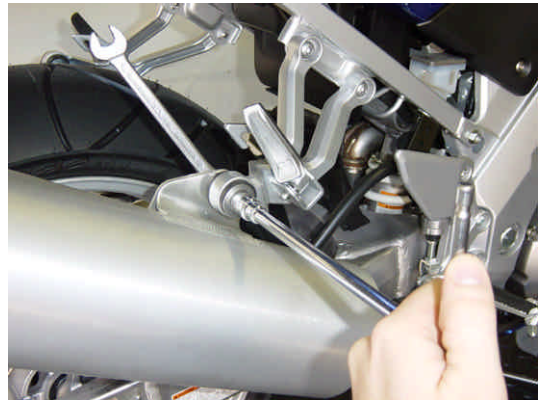

Figure 2
3. unscrew and remove the bolt from the metal muffler bracket and remove the muffler (**Figure 2 & 3**)